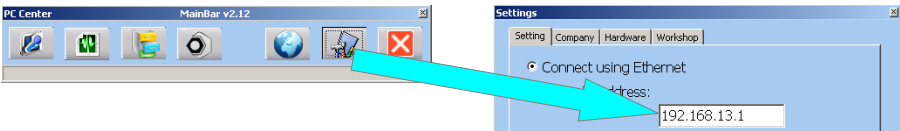

Figure 14.6
3. *MainBar application setting:* The same address which is set in the TSPro device (192.168.13.1) must be set in the Settings menu (Figure 14.6).